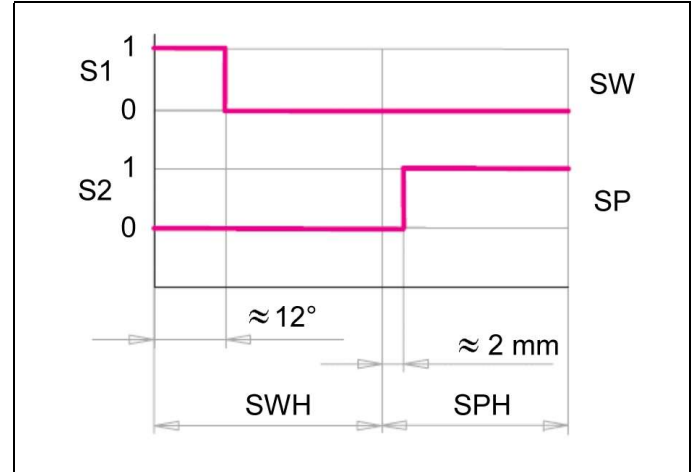

Figure 11: Signal course clamping and unclamping process
- When the control voltage is switched on, the setting of the proximity switches can be checked according to the functional diagram in Fig. 11.